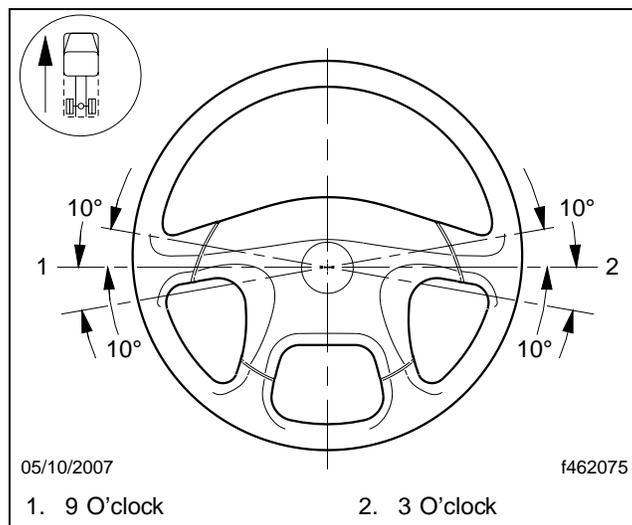

Fig. 12, Steering Wheel Centered
42. Make sure that the steering wheel is within 10 degrees of center as shown in **Fig. 12**. If it is not, remove and center the steering wheel.